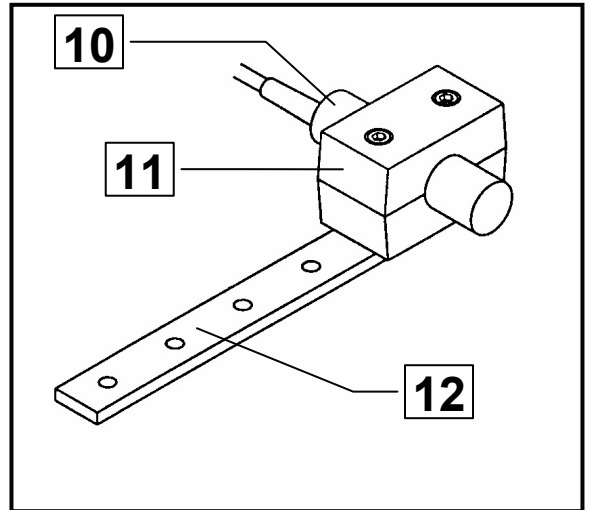

Fig. 7
**Note:** The clamp (11) must be fitted with at least two screws in order to prevent the sensor from vibrating or being pushed away from the counting ring.
- The supplied bar (12) can be used for the assembly of the sensor in the area of the front wheel of the tractor (fig. 7).
- Move the sensor in the clamp holder (11) in such a way that the distance from the counting ring is 3 to 6 mm (fig. 7 and 9).